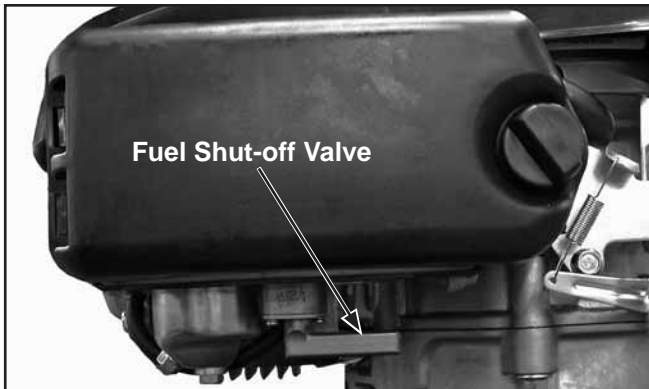

Figure 4. Fuel Shut-off Valve (ON Position Shown).
Turn to ON fuel flow, rotate fuel shut-off valve towards the engine. To turn OFF the fuel flow, rotate the fuel shut-off valve away from the engine. See Figure 4.
1. Move fuel shut-off valve to the **ON** position (if equipped). Refer to Figure 4.
1. Move the fuel shut-off valve to the **ON** position (if equipped). Refer to Figure 4.
To shutdown the engine, turn ignition switch to **OFF** position (if equipped). Move the fuel shut-off lever to **OFF** position (if equipped). See Figure 4.